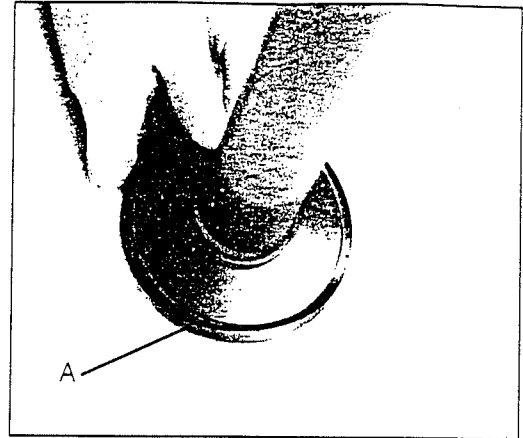

Figure 36
- 9) When reassembling the pump cylinder to the pump piston, make sure that the gasket (A) does not get twisted. This will cause the sprayer to leak. Note: The cylinder is shown removed from the tank cap for clarity. To ease the assembly, drop the cylinder into the neck of the sprayer tank and then screw the cap assembly on. (See Figure 36).